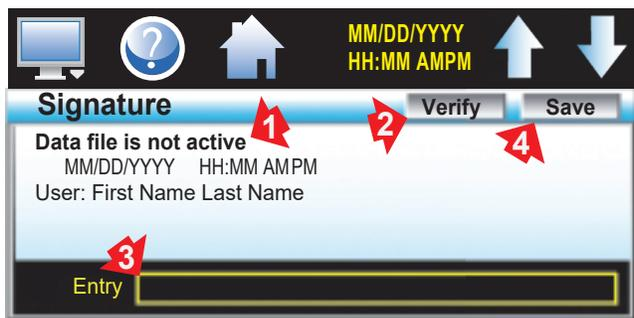

Figure 39. Signature List
2. Verify digital signature. Touch: (1)Signature (2)Verify - system indicates signature is valid if historical data file is intact and not altered or invalid if data has been altered (Figure 39).
3. Add signature, touch (3)Entry box, key signature, comment line and date/time ~ up to 16 characters. Touch: (4)SAVE (see Figure 39).